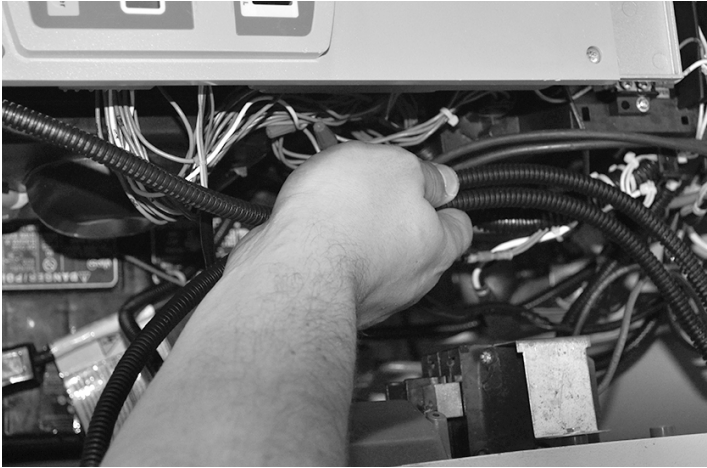

Figure 3-12. Routing Harness
16. Route the harness along the wire shelf as shown in Figure 3-12. Position with other wire looms to provide additional support.